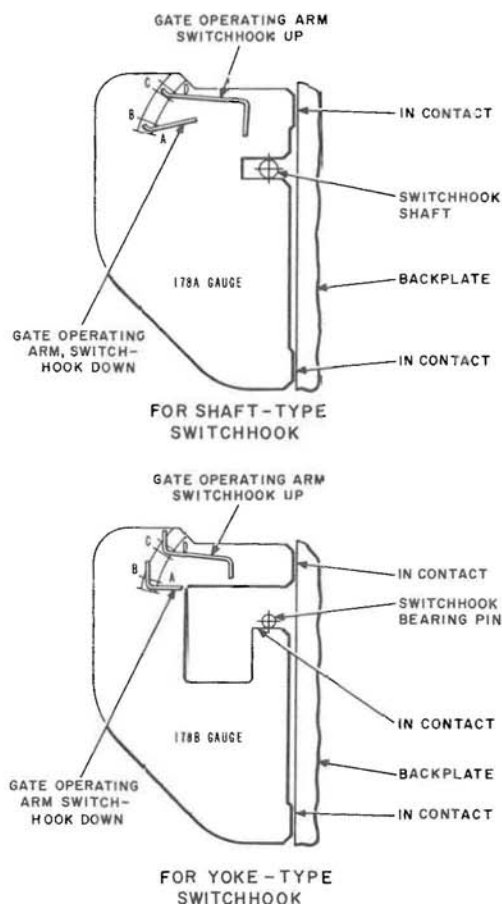

Fig. 38—Use of 178-Type Gauge
- (1) Deposit a single nickel which should be stopped by holding latch.
- (2) Lower switch hook slowly to release nickel.
6.70 If requirement in 6.69 is not met, check operating arm using 178A or 178B gauge (Fig. 38).